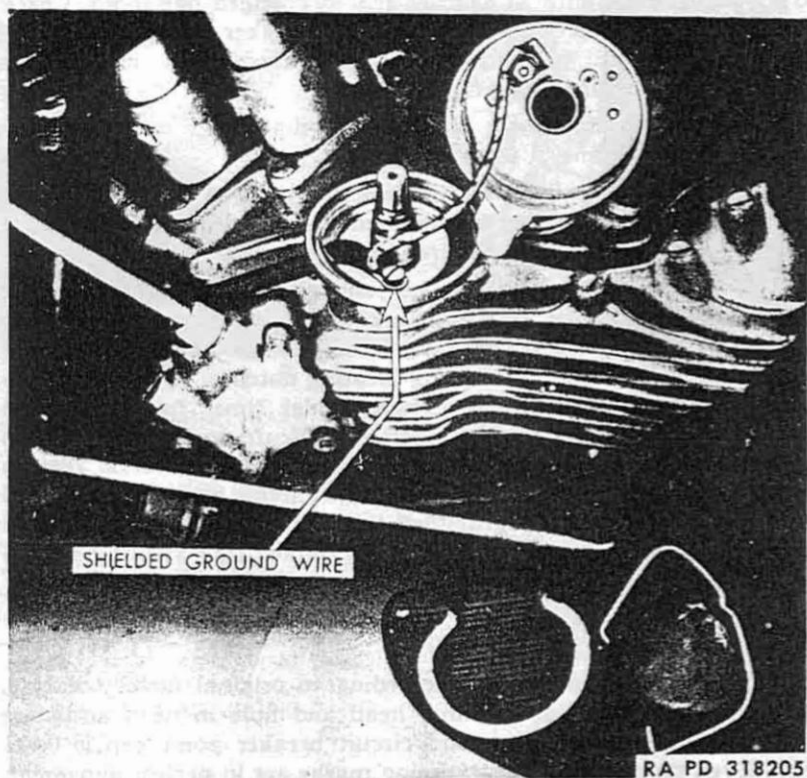

Figure 52—Shielding of Coil to Timer Wire Grounded on Base
(8) Fully advance spark lever (push inward toward engine) and observe how closely mark on breaker cam lines up with breaker lever fiber. If mark does not line up, lift timer base and turn shaft gear so its engagement with its driving gear is changed one tooth. Check again according to breaker cam mark and breaker lever fiber. Repeat this procedure until gear engagement is obtained which closely aligns cam mark and breaker lever fiber.
(9) See that timer base is turned so that timer to coil wire is toward rear of engine.
(10) Install timer base screws and lock washers. Make sure that timer to coil wire shielding is grounded under head of screw farthest away from engine (fig. 52). Securely tighten screws.
(11) Install timer head on base and secure with ground spring and cover retainer. Be sure ground spring is in its proper place so that when cover retainer ends are fitted through holes in the timer head, they will also fit into spring locating notches. It will be necessary to press ground spring upward under timer base to engage retainer ends in the spring notches. *NOTE: If cover retainer ends do not engage ground spring notches, spring will have no tension and timer head will be loose on its base.* Circuit breaker points and condenser are electrically grounded through timer base, and ground spring holds the head and base in close contact, thus assuring a good ground.
(12) Connect spark control wire and timer lever and adjust (par. 88).
(13) Engine is now timed according to original factory setting, providing mark on side of timer head and hole in head adjusting band are still in alignment, and circuit breaker point gap is 0.022 inch. Even though all ignition timing marks are in perfect alignment, as outlined in the foregoing instructions, it is advisable to accurately check ignition timing (step d following).
(8) With ignition timing correct, front cylinder piston is $\frac{9}{32}$ inch before top dead center, on compression stroke, when circuit breaker points just start to open. At this point spark occurs, igniting front cylinder fuel charge.
(9) Install flywheel inspection hole plug in left crankcase.
87. COIL TO TIMER WIRE (figs. 52 and 53).
(1) Disconnect battery negative ground wire at frame connection.
(2) Remove the two bolts which secure upper end of air cleaner bracket to frame tube. Swing air cleaner and bracket outward and forward to gain access to spark coil rear terminal.
(3) Disconnect coil to timer wire terminal from coil rear connection. Disconnect wire shielding from coil rear ground connection.
(4) Refer to paragraph 86 b (1) to (4) for timer head removal.
(5) Remove timer base mounting screw which secures wire shielding (fig. 52).
(6) Note position of coil to timer wire inside of timer head; then remove nut washer connecting wire to insulated contact stud.
(7) Work old wire and loom out of timer head hole and free from vehicle.
(8) On earlier models, the coil to timer wire was soldered to end of insulated stud. Removal of stud is necessary to remove this wire, or replace it with a shielded wire. Note location of stud insulations on inside and outside of timer head, for correct installation with reassembling.
(1) Pass end of wire, shield terminal, and loom up through hole in timer base.
(2) Ground the wire shield terminal under head of timer base mounting screw (fig. 52).
(3) Connect wire end terminal to insulated stud so that wire leads away from stud in direction shown (fig. 52).
(4) Pass coil to timer wire up alongside and to rear of frame saddle post tube to reach rear of spark coil.